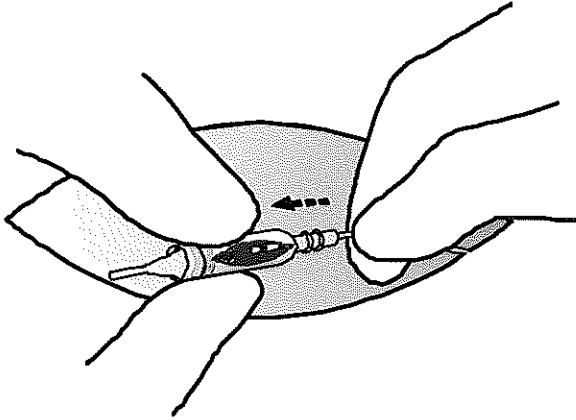

Figure 37: Remove lead from setscrew connector block.
7. Stabilize the lead and gently remove the lead from the setscrew connector block (Figure 37).